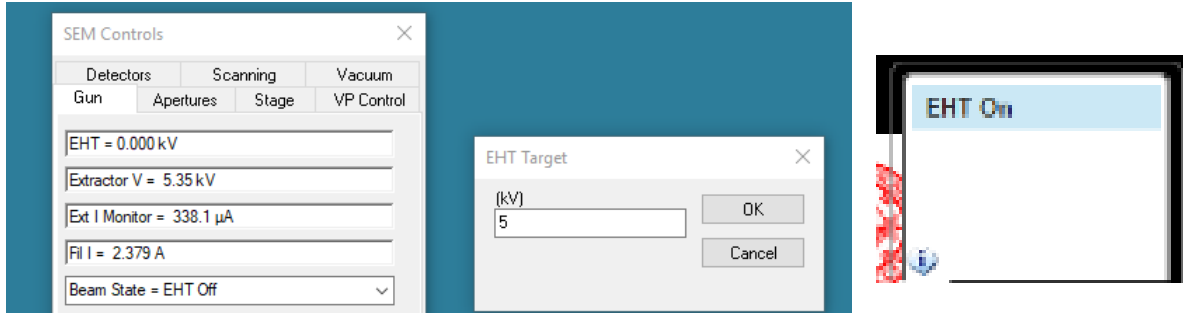

Figure 12
- Selection of EHT value is suggested from 5-10 keV for learning purpose. To select EHT value, go to Gun (Figure 12) and then insert desired value of EHT target. After that, apply accelerating voltage using EHT On